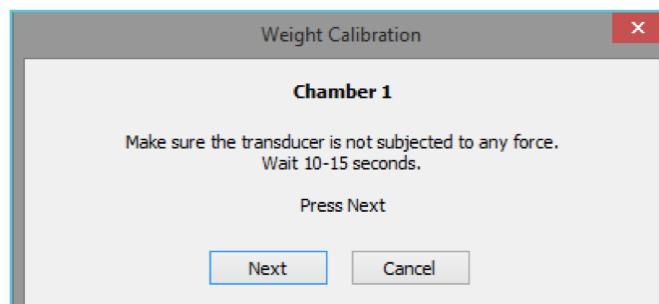

Figure 63.
4. Wait 10-15seconds and press next (figure 63)